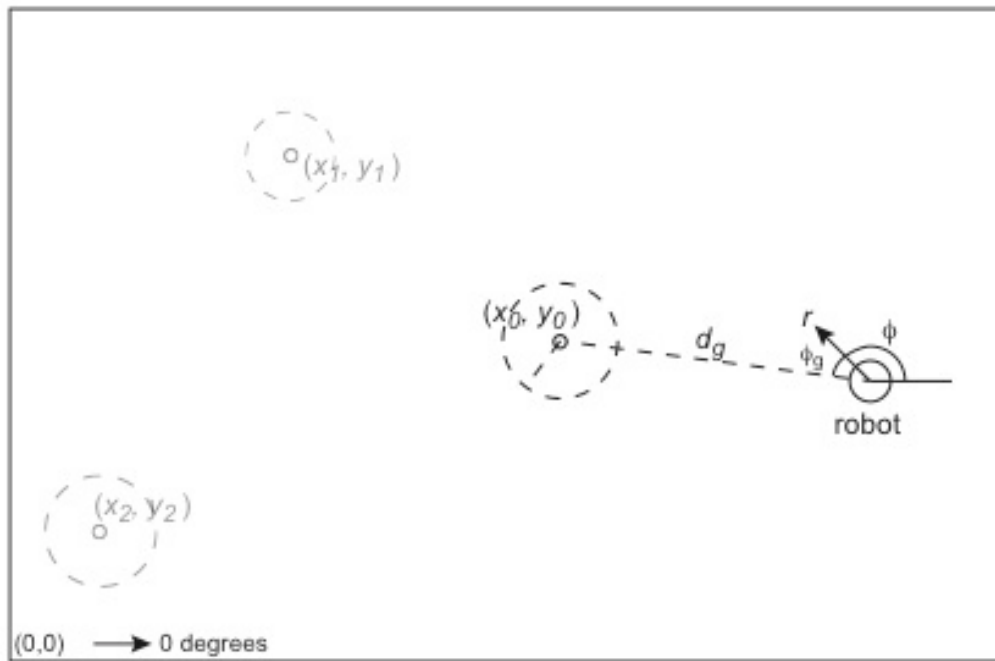

Fig. 1. Robot arena diagram.
1) (6 points) Design a *fuzzifier* for your robot assuming the following inputs, relative angle  $\phi_g$  between the forward motion vector of the robot and the center of the current goal and the distance  $d_g$  between the robot and the center of the current goal, and the current velocity state  $(\dot{\phi}, \dot{r})$ . See Fig. 1 (Positive angles are to the left of the robot, negative angles are to the right of the robot). Assume that an expert on your goal sensing system told you that the uncertainty on the angle sensor is about  $\pm 5$  degrees and the uncertainty on the distance detector is  $0.1d_g$  (i.e., the error is distance dependent; the farther the goal is from the robot, the more the error). Describe the rational behind your fuzzifier and plot a fuzzified input (the FACT) for the following inputs in degrees and meters: